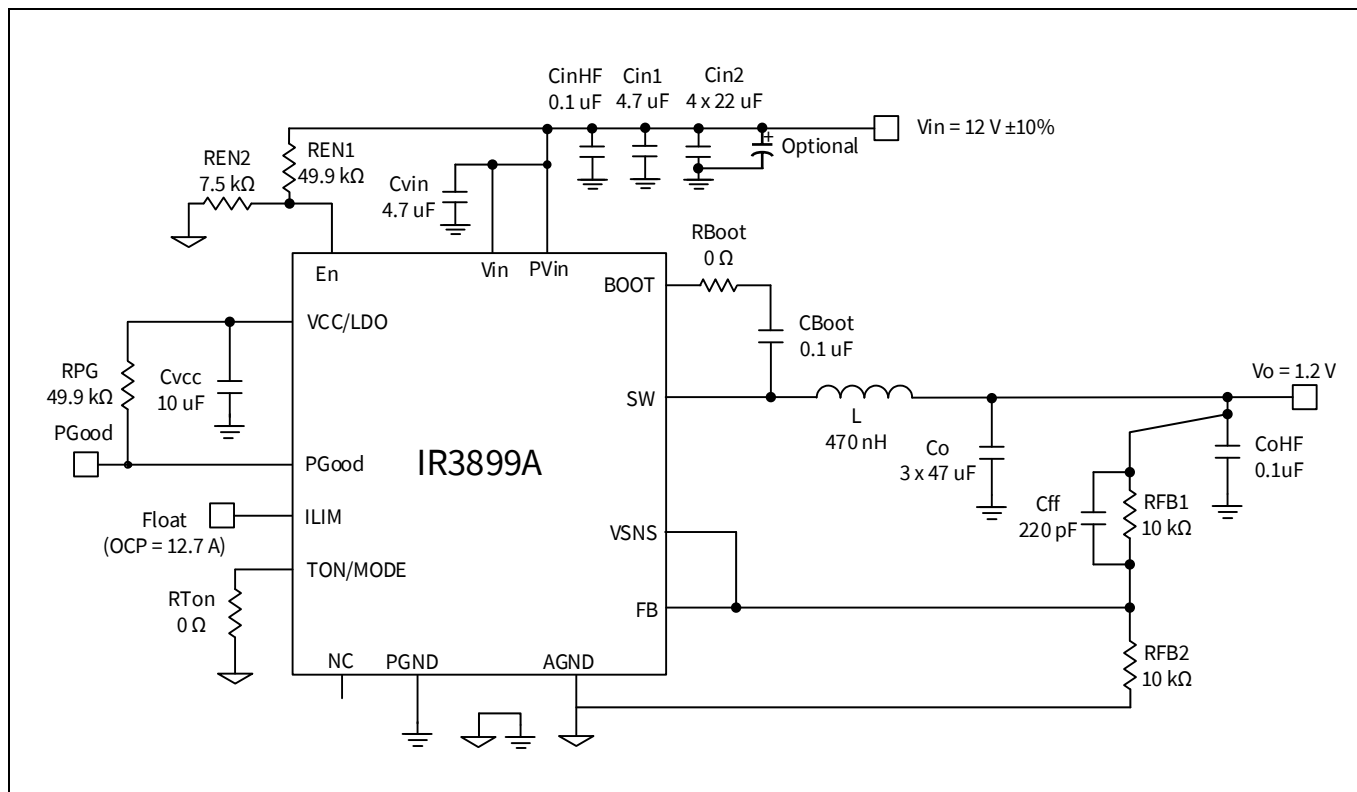

Figure 13 Application diagram of IR3899A. Pvin = 12 V, Vo = 1.2 V, Io = 9 A, fsw = 600 kHz.
In this section, an example is used to demonstrate how to design a buck regulator with the IR3899A. The application circuit is shown in **Figure 13**. The design specifications are given below:
- To implement the  $V_o$  sensing, the following design guidelines should be followed, as illustrated in Figure 13.